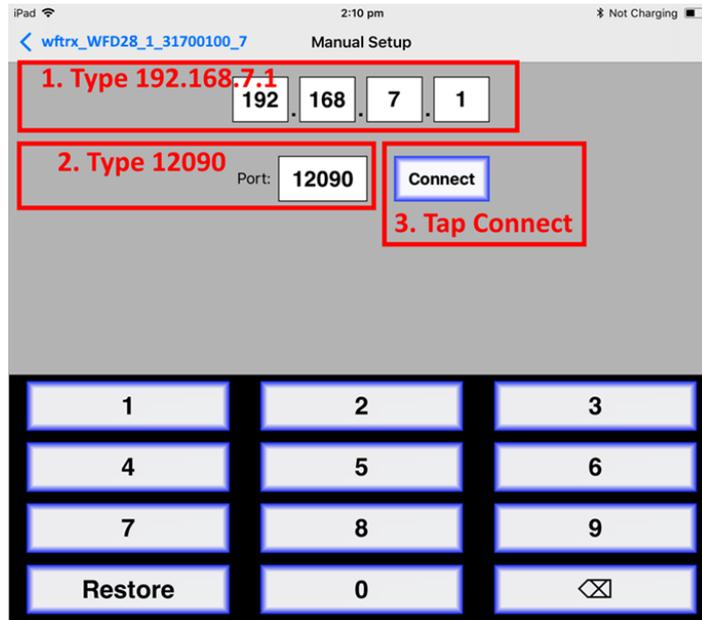

Figure 11 Connect manually if needed
- a. Configure: The WFD-28 always has the IP Address 192.168.7.1 on its own access point, so type this IP Address. Then type 12090 into the Port textbox and tap the Connect button as Figure 11. The green network LED on your WFD-28 should now flash regularly to show that the app is communicating with it.